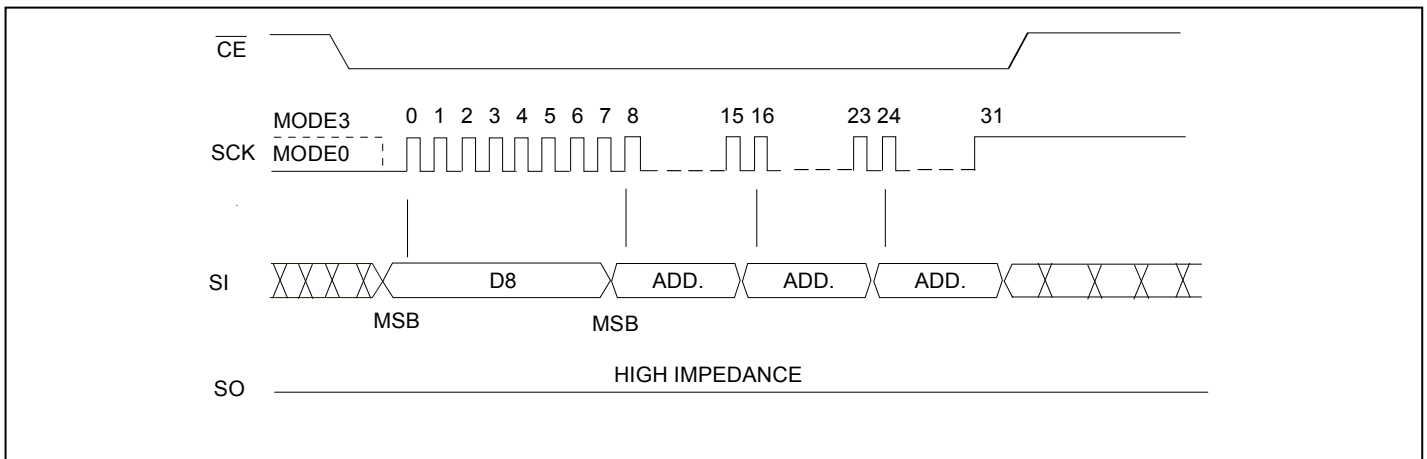

Figure 13: 64K-byte Block Erase Sequence
-A0]. Address bits [AMS-A16] (AMS = Most Significant address) are used to determine the block address (BAx), remaining address bits can be VIL or VIH.  $\overline{CE}$  must be driven high before the instruction is executed. The user may poll the BUSY bit in the Software Status Register or wait TBE for the completion of the internal self-timed Block Erase cycle. See Figure 13 for 64K Byte Block Erase sequence.